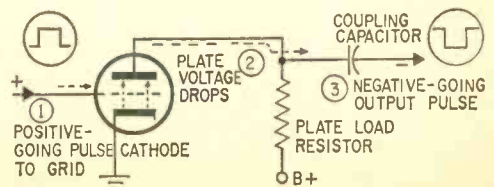

Fig. 1. Basic triode amplifier shows effects of a square-wave signal passing through the circuit. The numbers relate to specific actions covered in text.
Putting Phase in Reverse. Let's feed a simple amplifier tube with an input signal and cause it to conduct current. The input is shown as a positive-going pulse (1) applied to the tube grid in Fig. 1. As in any conventional amplifier, a positive-going grid voltage produces an increase in plate-current flow through the tube (from cathode to plate). It also produces another effect: voltage at the plate (2) will drop to a lower value. Reason for the drop is that more current flows through the plate-load resistor and that component drops more B+ supply voltage than previously. The plate of the tube receives less supply voltage, since current flow has increased, and the tube appears (to the power supply) as a lower value resistance.